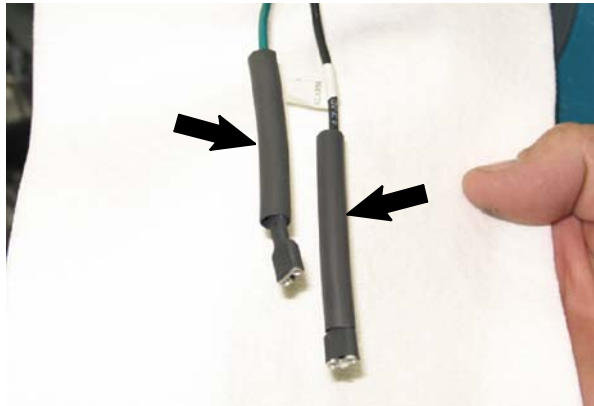

FIG. 21
30. Slide a piece of heat shrink (27) onto each wire from the backup alarm. Refer to Fig. 21.